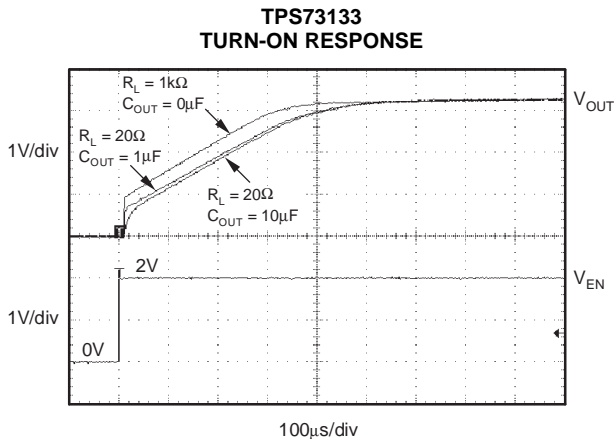

Figure 23.
The enable pin (EN) is active high and is compatible with standard TTL-CMOS levels. A  $V_{\text{EN}}$  below 0.5V (max) turns the regulator off and drops the GND pin current to approximately 10nA. When EN is used to shutdown the regulator, all charge is removed from the pass transistor gate, and the output ramps back up to a regulated  $V_{\text{OUT}}$  (see Figure 23).